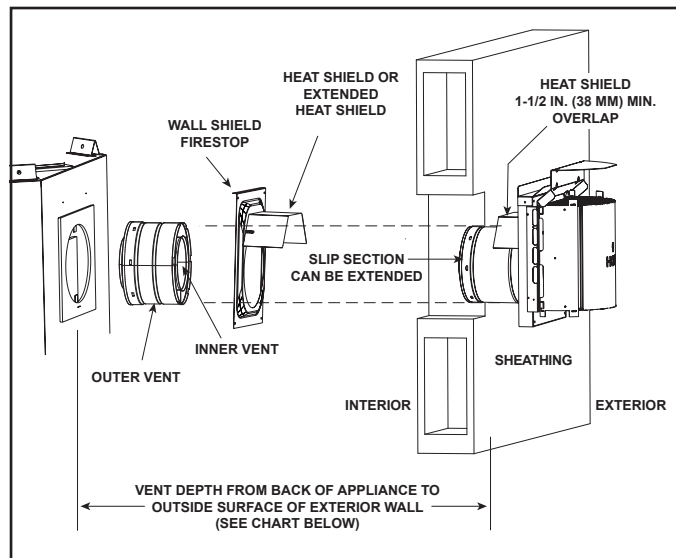

Figure 7.16 Venting Through the Wall - Generic Appliance Shown
- **DO NOT** remove the heat shields attached to the wall shield firestop and the horizontal termination cap (shown in Figure 7.16).
There are two sections of the heat shield. One section is factory-attached to the wall shield firestop. The other section is factory-attached to the cap. See Figure 7.16.